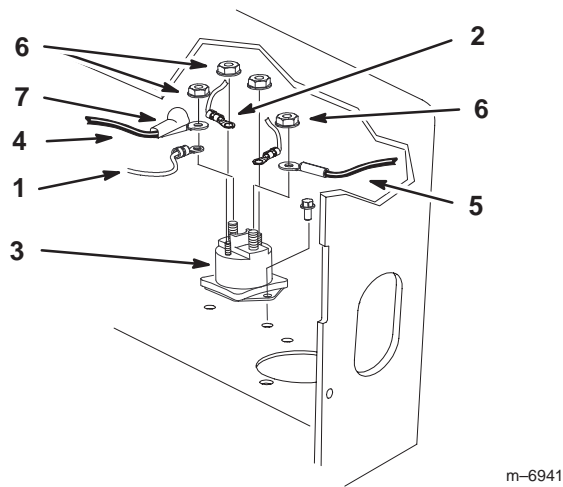

Figure 17
9. Install the insulating cover over positive battery cable and solenoid post (Fig. 17).
10. Install the positive starter cable to the solenoid post (Fig. 17).